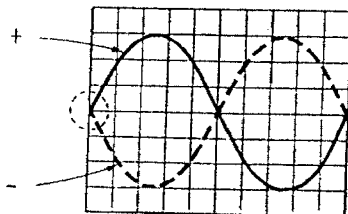

Figure-5
- Adjust A TRIG CH-1 BAL (VR1 T-2741) and A TRIG LEVEL CENTER (VR12 T-2741) for the sine wave starts at the same vertical point when SLOPE button is switched between + and - as shown in Figure-5.